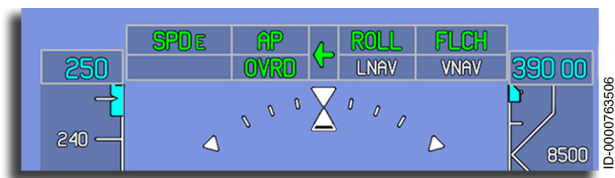

Figure 11-10
- **Manual Movement of the Thrust Lever** – The pilot can override the autothrottle system by manually moving the thrust levers to any position between idle and TOGA without disconnecting the AT provided the A/T T/O mode is inactive. An **OVRO** message is annunciated on the PFD, as shown in Figure 11-10.